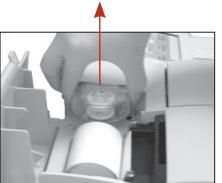

Figure 1: Remove the peristaltic pump cartridge
- Remove the pump by firmly grasping the housing and pulling upward (Figure 1).